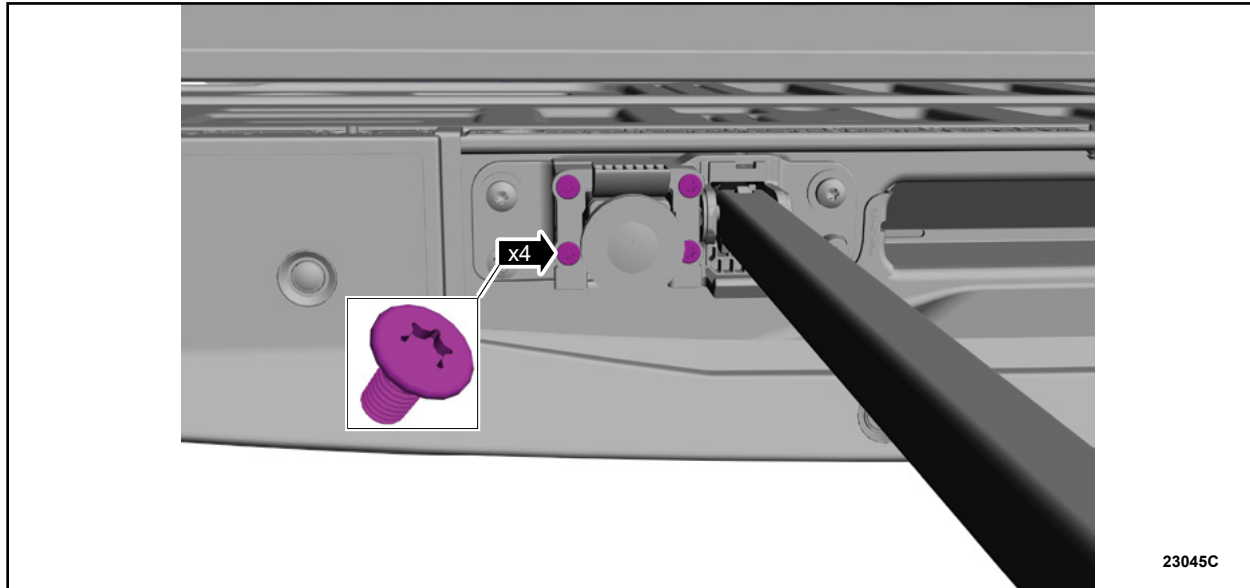

FIGURE 4
1. Remove the screws. See Figure 4.